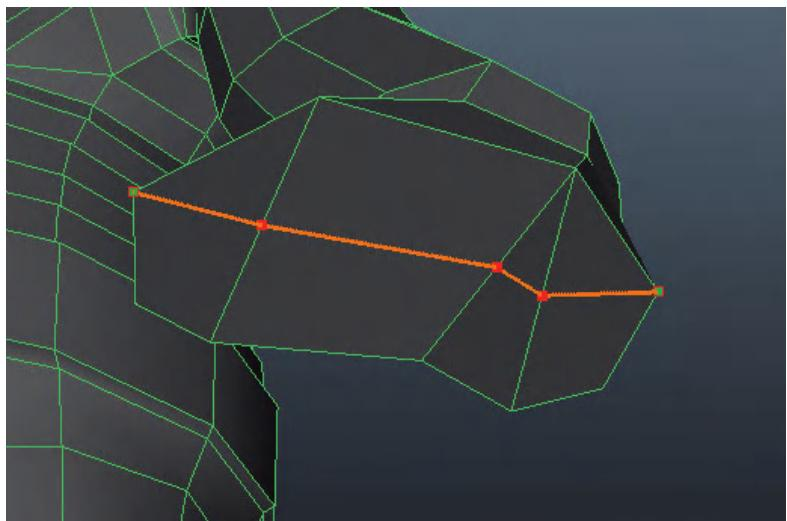

FIG 4.76 New cuts to allow for finger shape.
Step 94: Allow for finger roundness with additional geometry. Gain this geometry with the Interactive Split Tool and make a cut similar to Fig. 4.76.